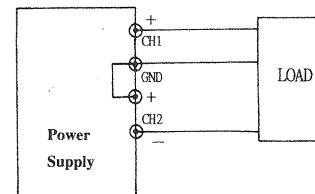

Fig. 5-4 Positive and Negative Supply
- F. If the chassis or common of the equipment being powered is separated from both the positive and negative power input connections, the output of the CH2 (negative) supply tracks the output of the CH1 (positive) supply. The configuration is shown in Fig. 5-4.